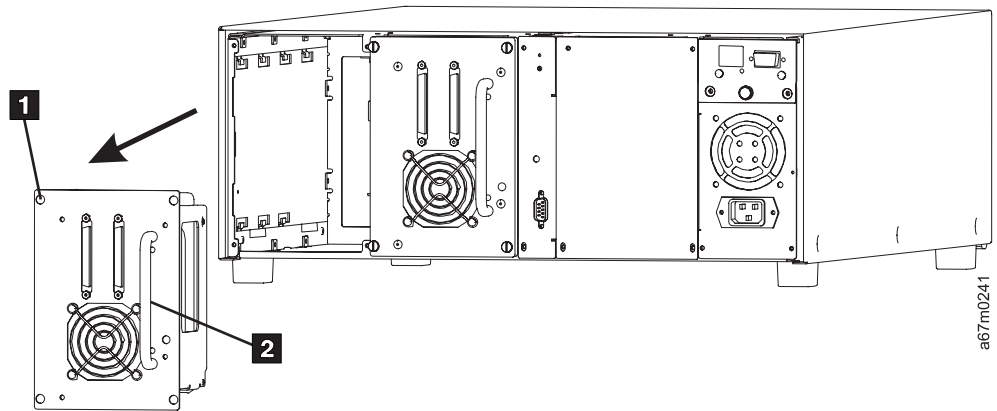

Figure 135. Removing the Drive Sled
4. Loosen the four captive thumbscrews **1** (see Figure 135 on page 296) on the drive sled and slide the drive sled out using the handle **2** (see Figure 135 on page 296).
- ___ 16. Slide the drive sled into slot you removed it from using the handle **2** (see Figure 135 on page 296). Tighten the four captive thumbscrews **1** (see Figure 135 on page 296) on the drive sled. See “Replacing a Drive” on page 209.